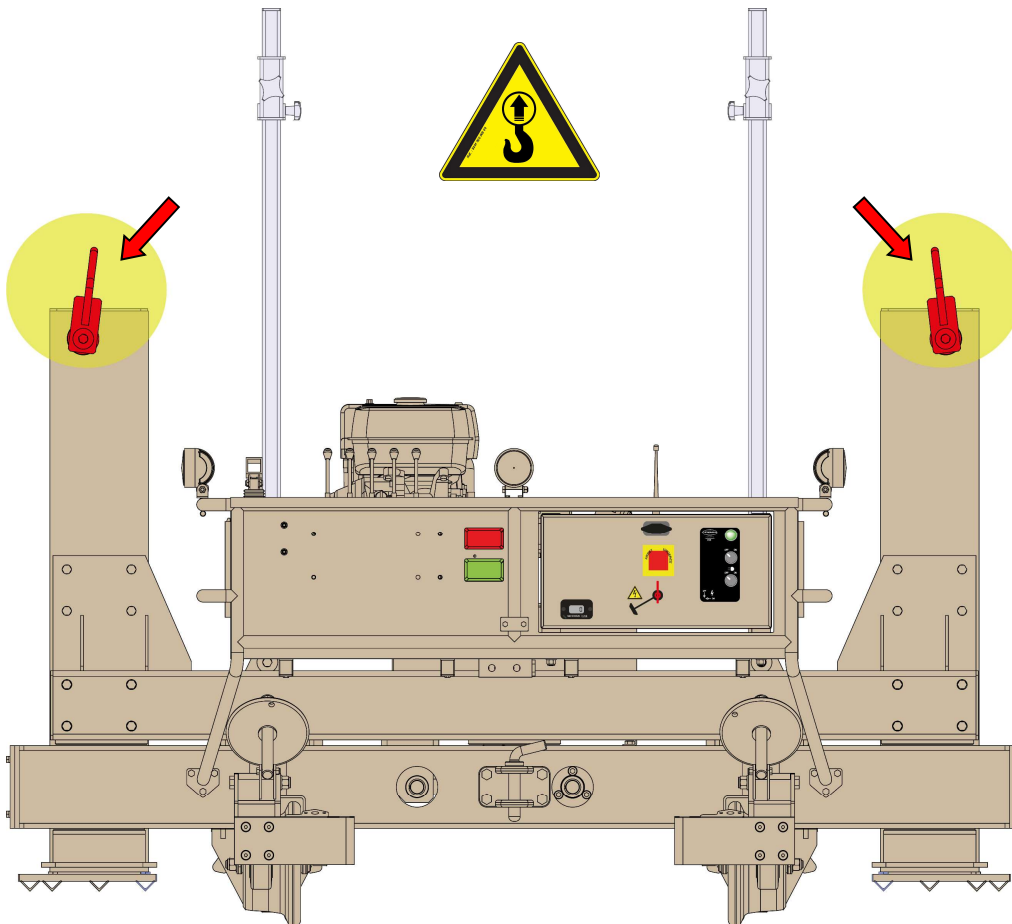

Figure 9
- The machine is equipped with 2 lifting rings (Figure 9).